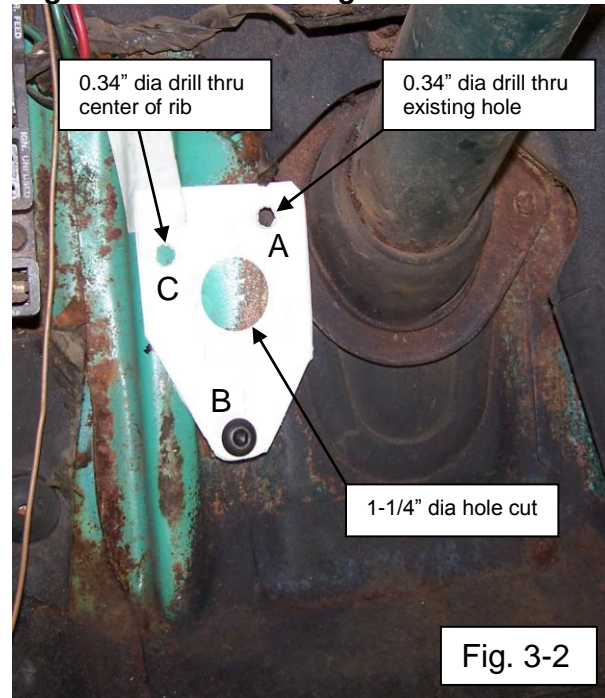

Fig. 4-1
5. See Fig. 4-1 for interior view of completed holes and Fig. 4-2 for engine side view.